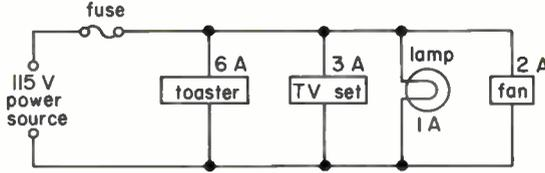

Fig. 4
12. The household appliances of Fig. 4 are connected in *(series) (parallel)*. Assuming that all of them may be in use at the same time, would you use a 10-A, a 15-A, or a 20-A fuse to protect this circuit?